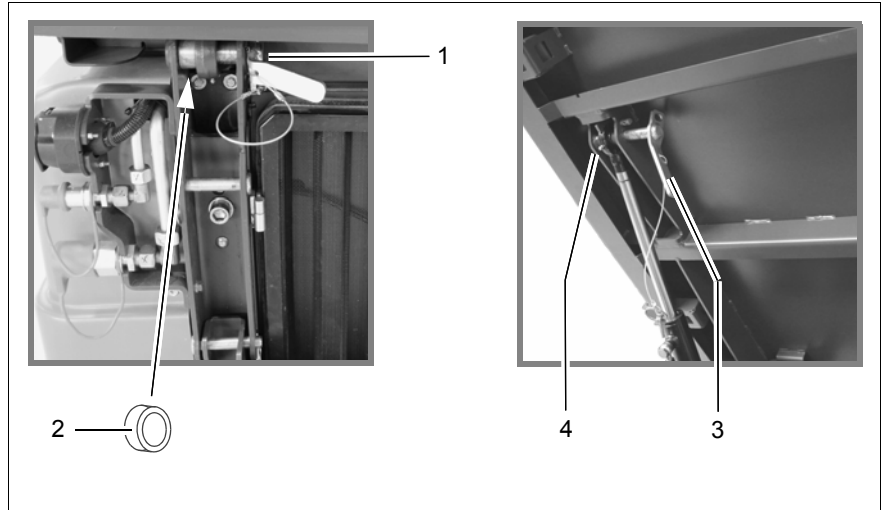

Fig.40
- Using the cranks continue lowering the loading platform until the holes (Fig. 40/1) for the locking bolts are aligned.
- Secure the loading platform with the locking bolts and spring locks. For this the bush (Fig. 40/2) (see enclosed package) has to be installed in such a way that the loading platform is aligned uniformly.
- Manually fold open the loading platform and for safety insert the right lifting cylinder into the brace (Fig. 40/4).
- Insert both locking bolts (Fig. 40/3) between the loading platform and the lifting cylinder and secure it with a linchpin.